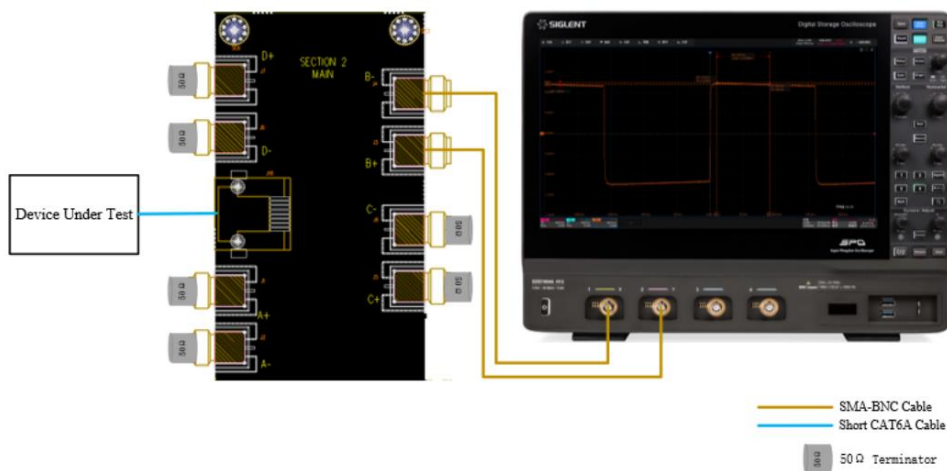

Figure 5-2 Single-ended Input Connect
- SMA Cable: The connect method using SMA cables is shown in Figure 5-2. The steps are:
- 1) Connect one end of a short Ethernet cable to connector J16 in area ② of the test fixture and the other end to the DUT.